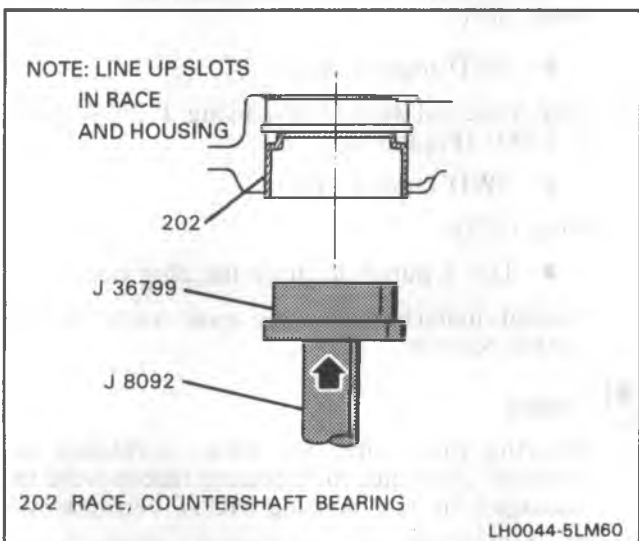

Figure 43 Countershaft Bearing Race Install
5. Countershaft bearing race (202) using J 36799 and J 8092 (Figure 43).
- Shim(s) (252).
- Snap ring (251).